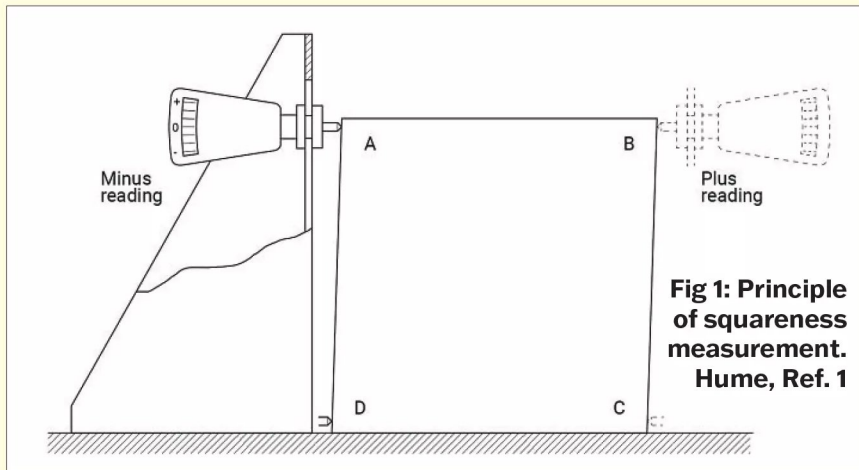

Fig 1: Principle of squareness measurement.
Hume's Engineering Metrology, **ref. 1**, explains a robust method for accurately determining the squareness of an object by using a comparator. Hume states the method was developed by the National Physics Laboratory. **Figure 1** illustrates the method, the great attractions of which are simplicity and self-calibration.
The comparator square described in this article is a version of the measuring frame shown above and the cylindrical master square shown in photo 1 is analogous to the block in fig. 1. The comparator square is used to, first quantify squareness error of the cylindrical master square, and then the dial indicator on the comparator is zeroed, making
The comparator frame shown in fig. 1 could be approximated using a dial test indicator held in a common magnetic base. Commercial versions of squareness comparator designed along this line exist. Most if not all such devices use a curved base in place of the straight knife edge. There has been much discussion and debate in forums about the function of and need for a curved base. The National Physics Laboratory method, as explained by Hume, does not include a curved base. The curved base appears to be an attempt to compensate for there being no adequate means to align the dial test indicator contact point squarely to a straight knife edge.